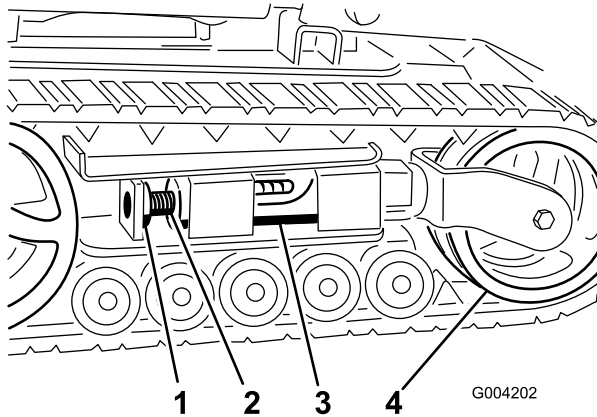
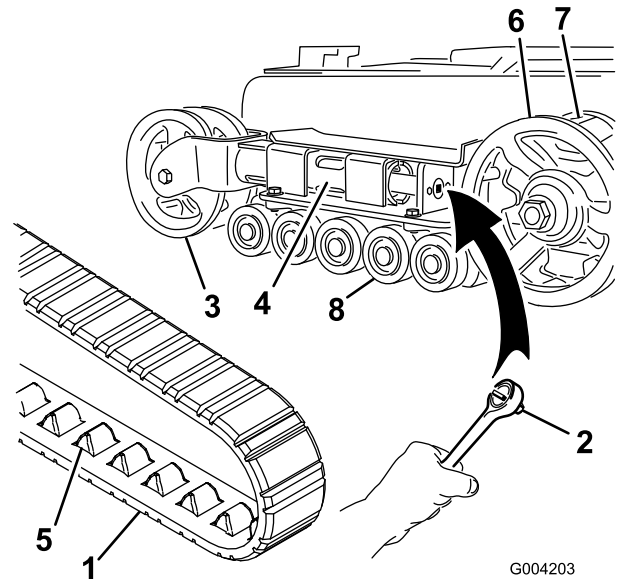
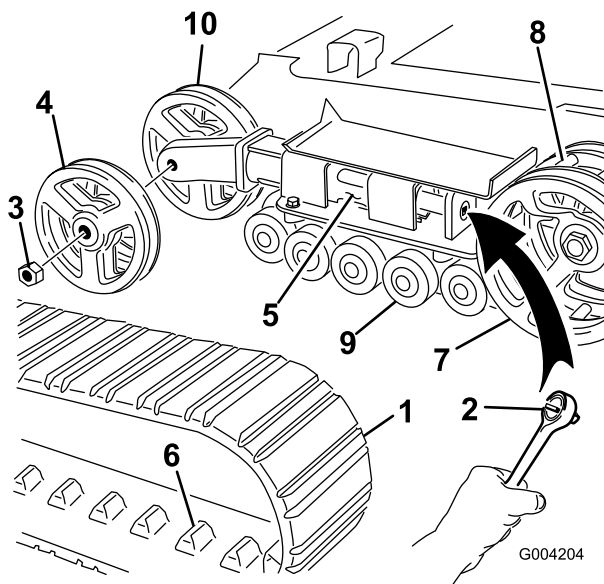

Figure 45
Figure 46
Figure 47
3. Remove the locking bolt and nut (Figure 45).
5. Align the closest notch in the tension screw to the locking bolt hole and secure the screw with the locking bolt and nut (Figure 45).
4. Using a drive socket wrench (1/2 inch), release the drive tension by turning the tensioning screw clockwise (Figure 45 and Figure 46).
5. Push the tension wheel toward the rear of the unit to move the tension tube against the frame (Figure 46). (If it does not touch the frame, continue turning the tensioning screw until it does.)
7. When the track is off the tension wheel, remove it from the drive sprocket and road wheels (Figure 46).
8. Beginning at the drive sprocket, coil the new track around the sprocket, ensuring that the lugs on the track fit between the cogs on the sprocket (Figure 46).
9. Push the track under and between the road wheels (Figure 46).
4. Using a drive socket wrench (1/2 inch), release the drive tension by turning the tensioning screw clockwise (Figure 45 and Figure 47).
5. Push the tension wheel toward the rear of the unit to move the tension tube against the frame (Figure 47). (If it does not touch the frame, continue turning the tensioning screw until it does.)
6. Remove the nut securing the outer tension wheel and remove the wheel (Figure 47).
7. Remove the track (Figure 47).
8. Remove the nut securing the inner tension wheel and remove the wheel (Figure 47).
12. Install the inner tension wheel and secure it with the nut removed previously (Figure 47).
14. Install the new track, ensuring that the lugs in the track fit between the cogs in the middle of the drive sprocket (Figure 47).
15. Install the outer tension wheel and secure it with the nut removed previously (Figure 47).
6. Place the greased road wheel cap over the bolt head (Figure 46).
7. Secure the road wheel cap with the snap ring (Figure 46).